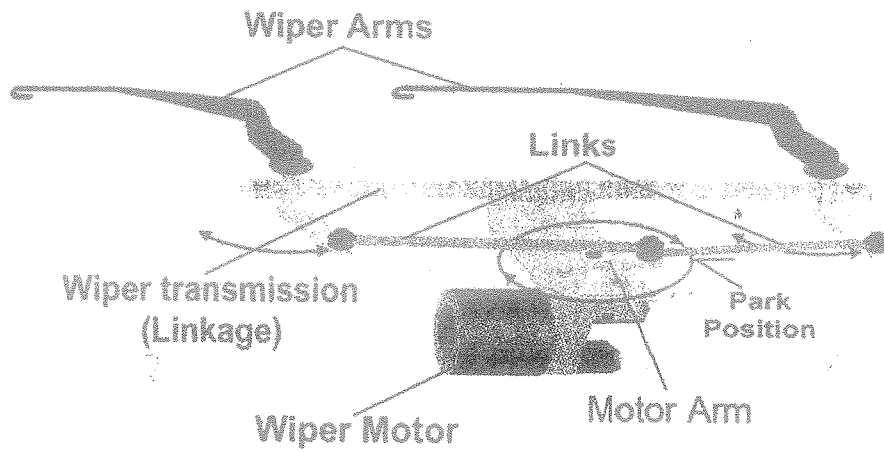

Figure Q3
- ii) Figure Q3 depicts components of a typical windshield wiper system. State two additional changes you would make for the above application and briefly justify your decision.